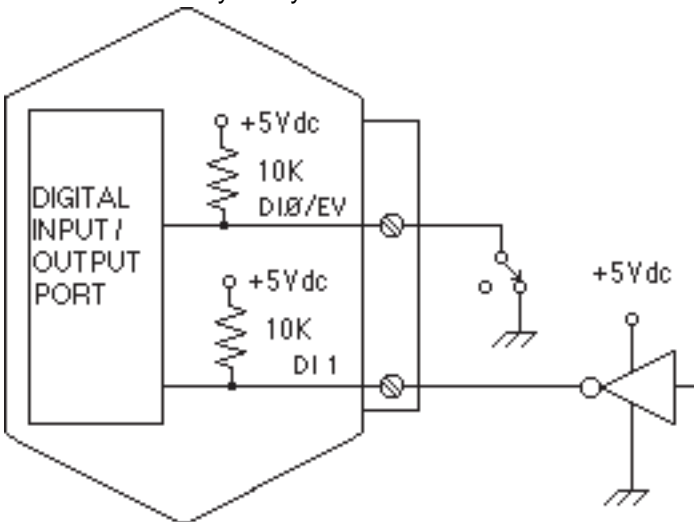

Figure 6.3 Digital Inputs
signals. The inputs are protected to voltages up to $\pm 30V$ and are normally pulled up to the logic "1" condition (see Figure 6.3). Digital inputs can be read by the Digital Input (DI) command. Voltage inputs less than 1 V are read back as '0'. Signals greater than 3.5 V are read as '1'. No other commands have any affect on the inputs.